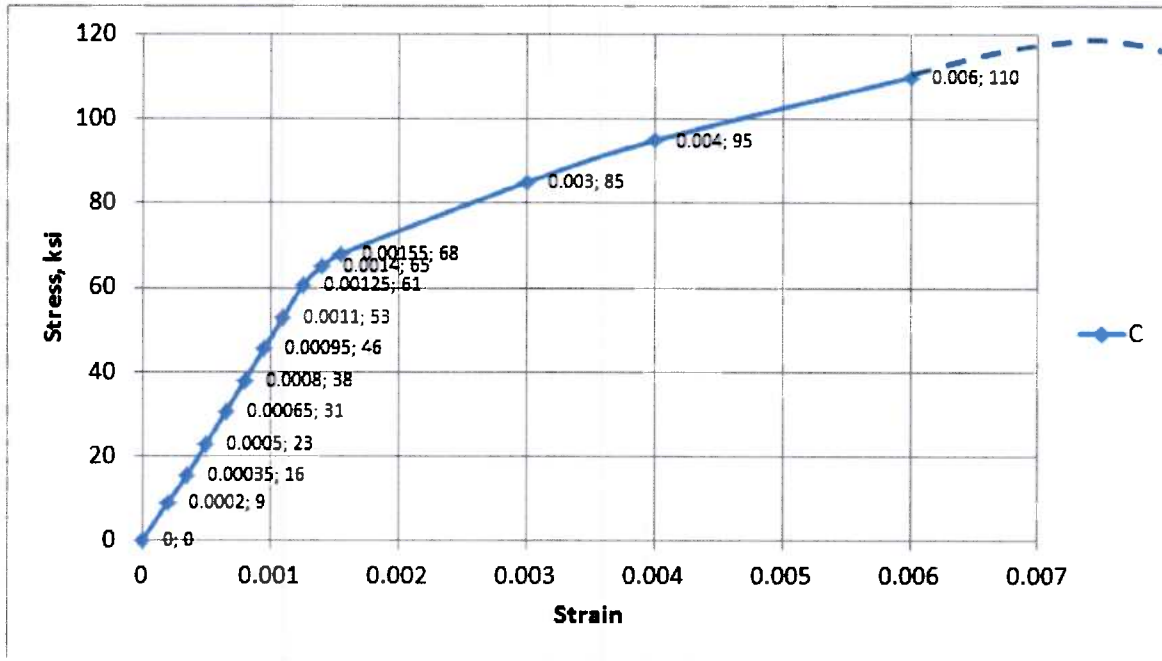
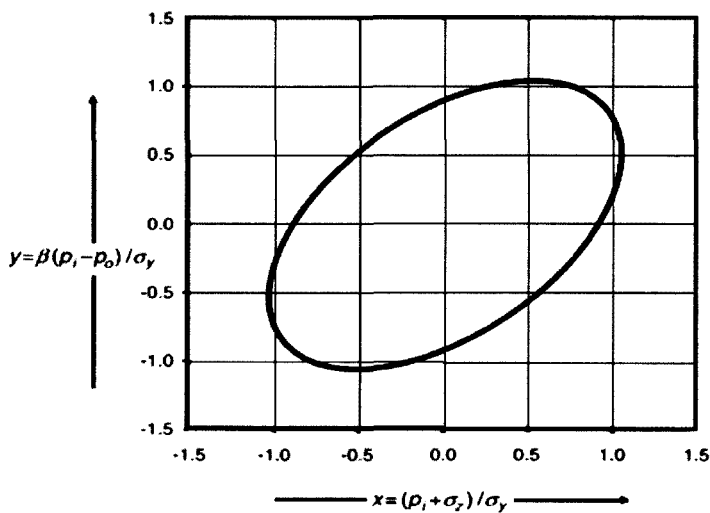

Figure V.1: Stress strain of specimen C
Figure VII.1: Failure envelope for Tubing described in Figure V.1
- c) Grading of tubing consists of alphabetic and numeric coding. The specimen of Figure V.1 is one of the tubing that is available in the API standard. If the alphabet is C, what is the grade of the tubing? C-__?
- d) From the manufacturer it is reported that the yield strength reduction rate of the tubing (Figure V.1) is 0.03% /^oF. If we use the tubing in the reservoir having an average temperature of 275^oF, what would be the yield strength of the tubing at this temperature?
Figure VII.1 shows the failure envelop of the tubing whose stress-strain is shown in Figure V.1. This tubing is going to be loaded with an inner pressure (P_i), outer pressure (P_o) and axial loads (σ_z) as given in Table VII.2 below. Based on the given data and the failure, does the loading cause any problem? If yes, what kind? Please show your work using the failure envelop!
What are the Inner (P_i) and Outer (P_o) pressures of the tube loaded in the failure envelope, Figure VII.1?
Now you are going to compute the collapse rating of the tubing specimen described in Figure V.1 using API formula. Assume that the geometry of the tubing mentioned in Figure V.1 is ID = 8.75 inch and OD = 9.64 inch pipe. Please compute the collapse pressure of the tube!